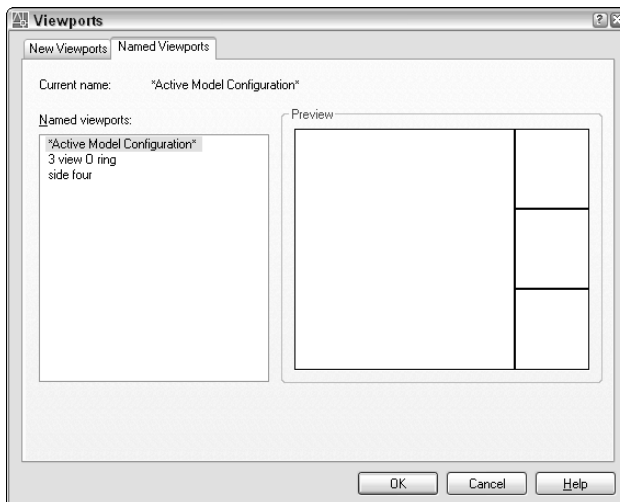

**Figure 8-13:** The Named Viewports tab lists saved viewport configurations.
1. Choose View ⇨ Viewports ⇨ Named Viewports to open the Viewports dialog box with the Named Viewports tab on top, shown in Figure 8-13.